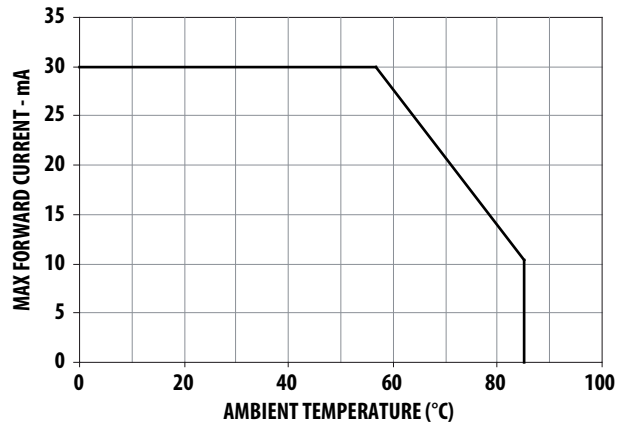

Figure 4. Maximum Forward Current vs. Ambient Temperature
1. Derate linearly as shown in Figure 4.